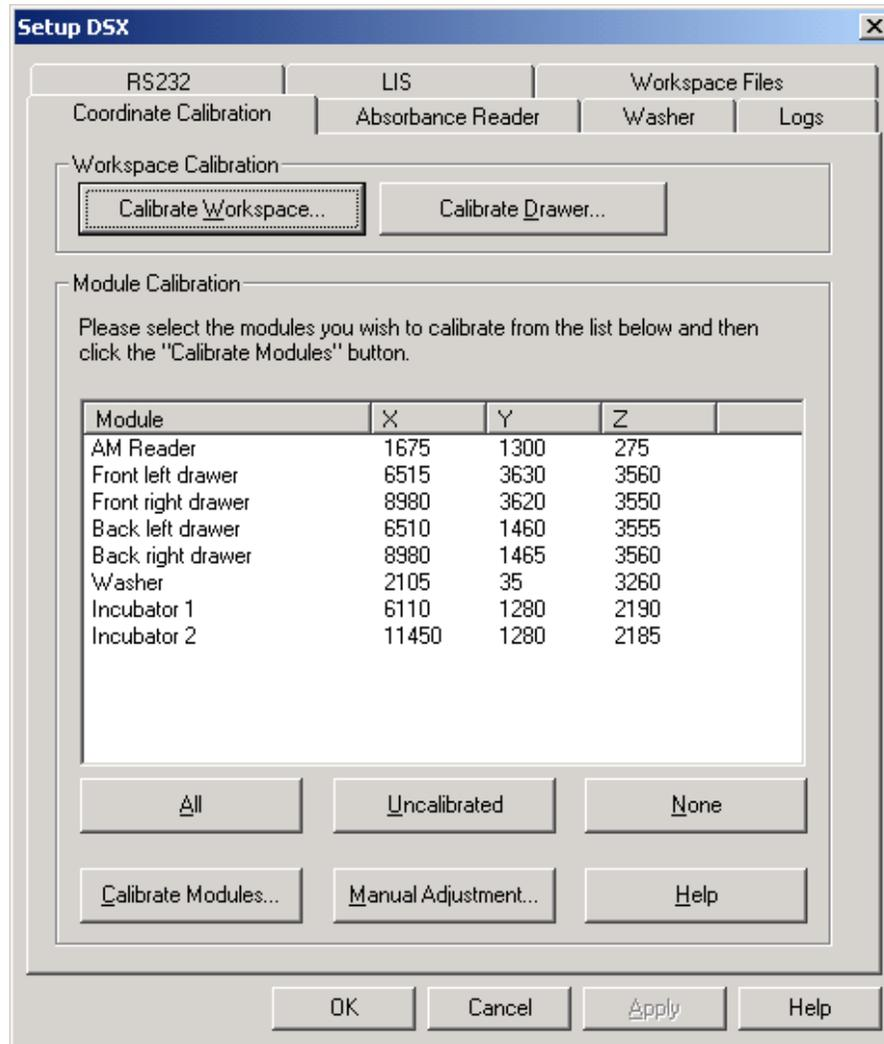

Figure 3-2 Setup DSX Dialog Box - Coordinate Calibration Tab
- 2 Start Revelation, select “Tools” and then select “Configure System”. Select the Coordinate Calibration tab of the Setup *DSX* dialog box (Figure 3-2).
Module calibration is performed to make sure that the coordinates for each module is properly defined so that the pipette arm can move the plates as appropriate. The present position of each module is indicated in the Module Calibration region of the Setup *DSX* dialog box - Coordinate Calibration Tab (Figure 3-2).
- 1 Start **Revelation**, select **Tools** and then select **Configure System**. Select the **Coordinate Calibration** tab of the Set-up *DSX* dialog box (Figure 3-2).